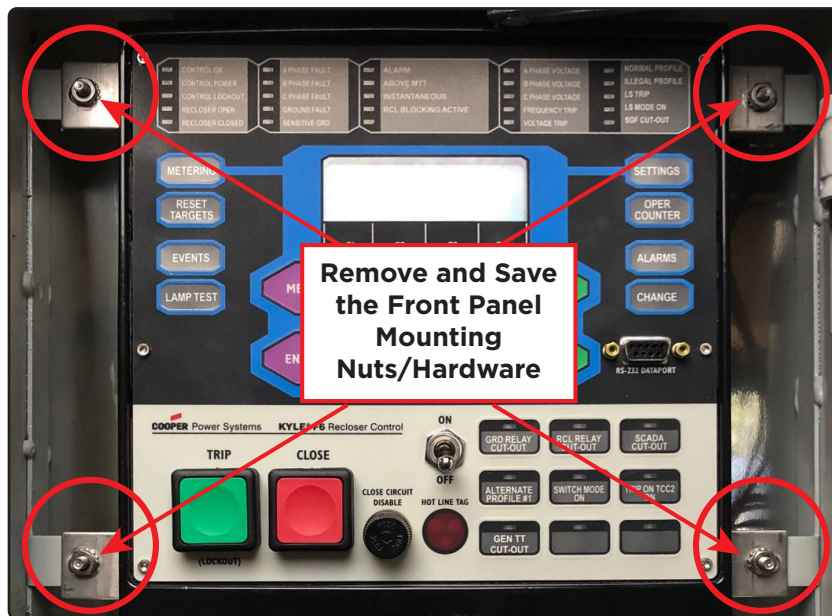

Figure 13 Front Panel Mounting Hardware
2. Remove the four 3/8" nuts/hardware from the front side of the Eaton Cooper Form 6 control panel (Figure 13). Save all hardware, it will be used to install the M-2406 Adapter Chassis.